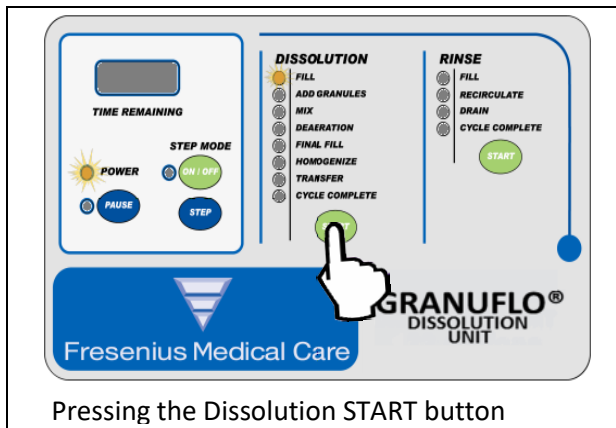

Figure 5
1. Before initiation of *Dissolution Cycle*, ensure the tank is empty, the two (2) propellers are attached to the Mixer Shaft, and the 1 micron filter is installed in the Concentrate Filter Housing (Diagram 2, page 8) by ensuring that there is a filter present. Ensure that the water supplied to the machine is between 20 and 30°C (68 and 86°F) for proper dissolution and mixing. Ensure you have the appropriate personal protective equipment donned. If the filter is not present in the filter housing, refer to Section 8.4.1, Filter Removal and Replacement.
2. Ensure the power switch is ON and water supply valve is in the OPEN position, then place the GranuFlo I Dissolution Unit in Dissolution Cycle FILL Operation by pressing the Dissolution side START button (Figure 5).